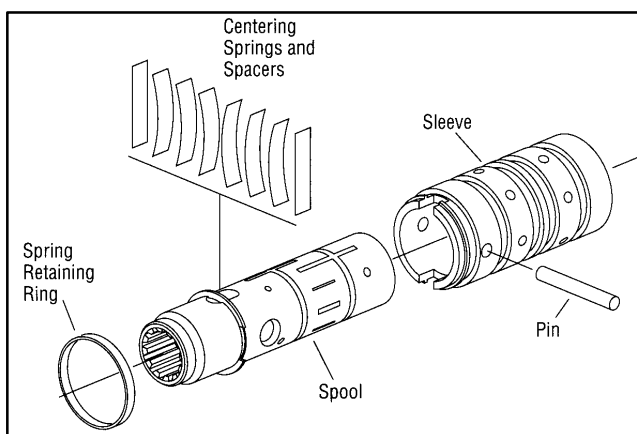

Figure 136
7. Remove the pin that holds the spool and sleeve together (Fig. 136).
3. Install the centering springs in the spool (Fig. 136). It is best to install the two flat pieces first. Next, install the curved pieces, three at a time.